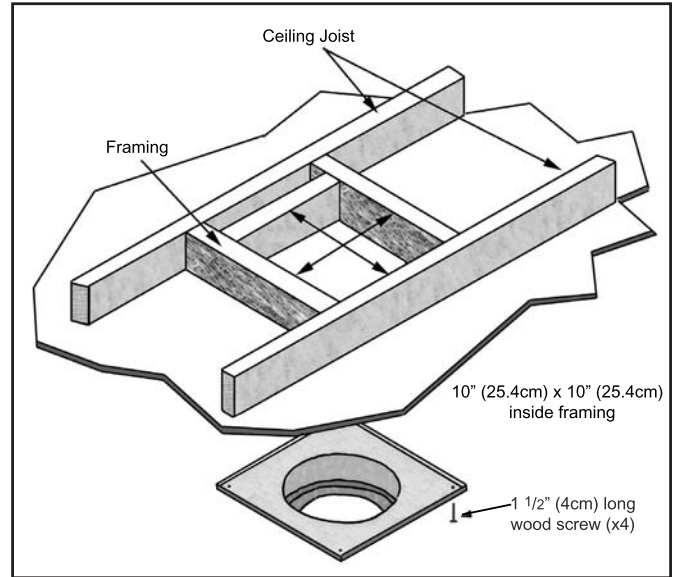
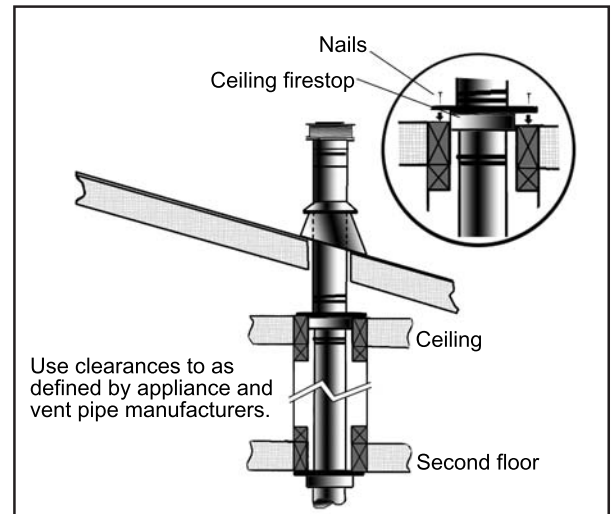

Figure 29: Wall Framing for 10" (25.4 cm) x 10" (25.4 cm) Hole for Vertical Installation.
Figure 33: Multi-Story Vent Pipe Installation.
3. To install the Round Support Box/Wall Thimble in a flat ceiling, cut a 10 inch (25.4 cm) square hole in the ceiling, centered in the hole drilled in Step 2. Frame the hole as shown in Figure 29.
- For multi story installations. A ceiling firestop is required at the second floor, and any subsequent floors (see Figure 33). The opening should be framed to 10" (25.4 cm) x 10" (25.4 cm) inside dimensions, in the same manner as shown in Figure 29.